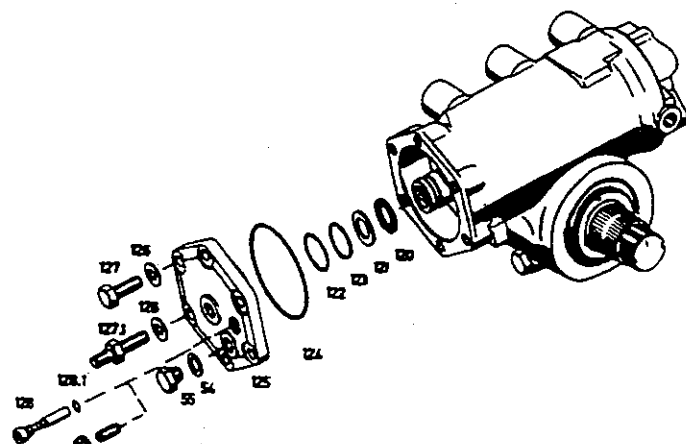

Fig.9
Unscrew hexagon screws (127) with or without washers (126) (Fig.9).